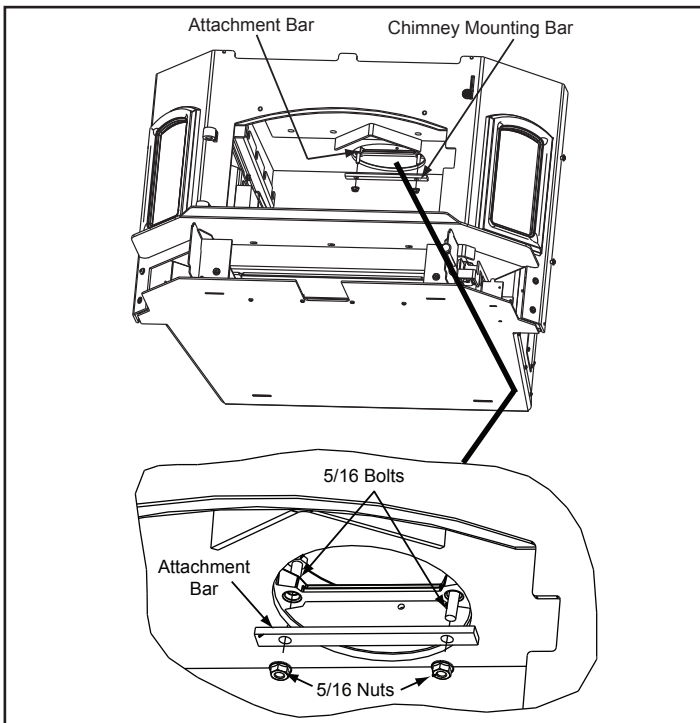

Figure 18.2
1. Once you have the appliance in place and secured, reach up through the flue opening and grab the attachment bar and pull down inside flue opening. **Figure 18.2.**